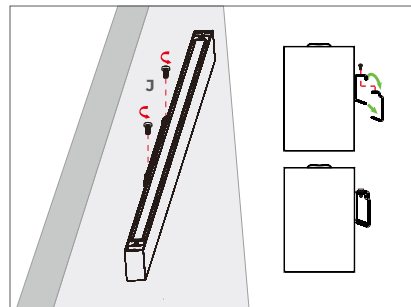

FIGURE 1-5
- 7) Secure fixture to wall using screw "J" (Figure 1-5)